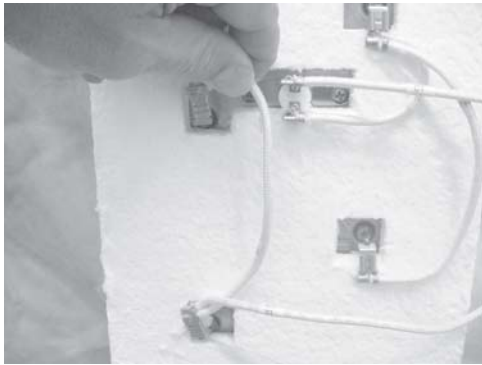

Figure 2-12
3. Label and remove all wire to heaters and high limit (Figure 2-12).